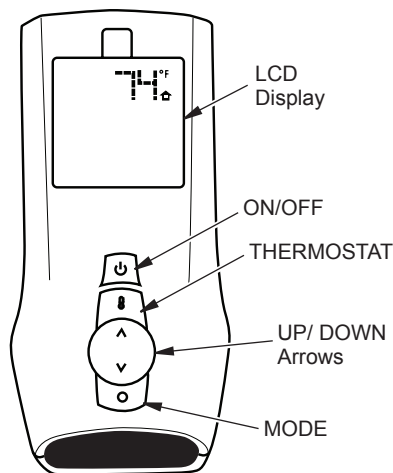
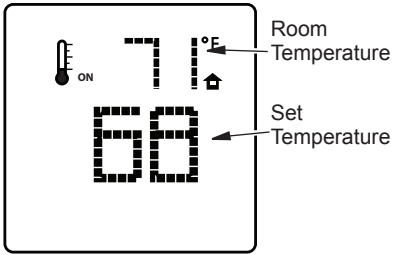

Figure 32 - Hand-Held Remote Control
Figure 34 - Room Temperature Setting
12. Select manual flame height function by pressing MODE button on remote until a flame is shown in lower left corner of display. Use the UP/DOWN arrow button to set desired flame height (see Figure 32, page 20).
Push ON/OFF button and burners will come on in high position (see Figure 32). A beep from the receiver confirms the command.
This function allows you to control the height of the flames through 5 levels. Select manual flame height function by pressing MODE button until a flame is shown in lower left corner of display. Use the UP/DOWN arrow button to set desired flame height (see Figure 32). A beep from the receiver confirms the command.
To activate, press THERMOSTAT button on remote control (see Figure 32). The word ON will appear to the right of temperature bulb graphic on display (see Figure 34, page 21). Use UP/DOWN arrow button to set desired room temperature. Control system will cycle fireplace on or off to maintain selected temperature.